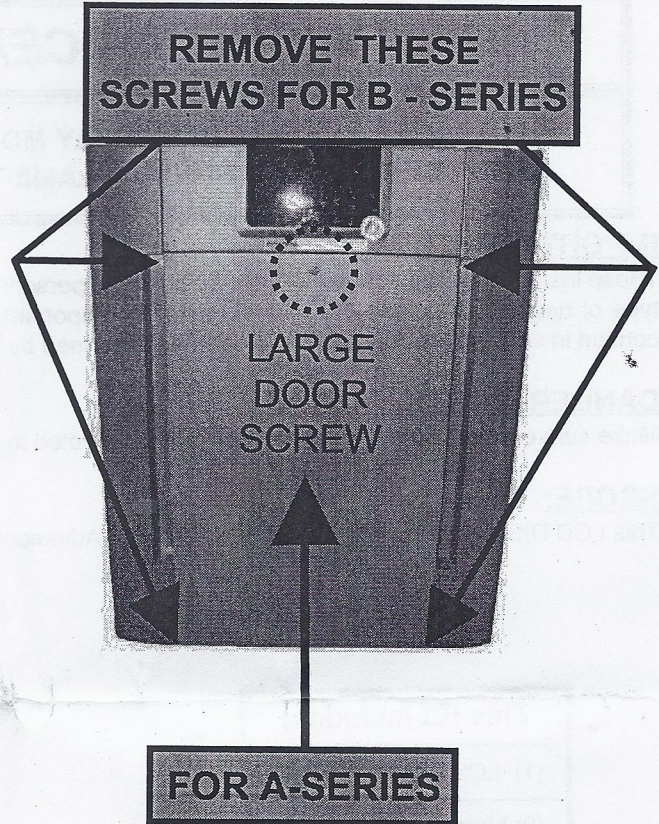

Fig. 1
3. B-Series: Remove front door by removing the 4 door panel screws shown in Fig. 1 and Fig. 2.
4. A-Series: Remove front door by removing the large door screw in front of unit as shown in Fig. 1.